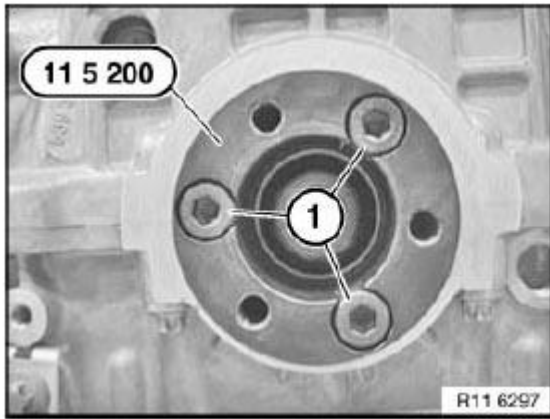

Fig. 313: Identifying Special Tool (11 5 200)
Tighten down special tool 11 5 200 with screws (1) to hub. See **Fig. 313**.